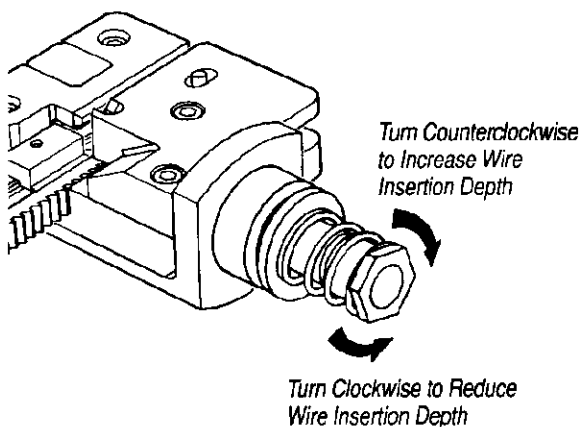

Figure 5
5.1. Wire Insertion Depth (Figure 5)